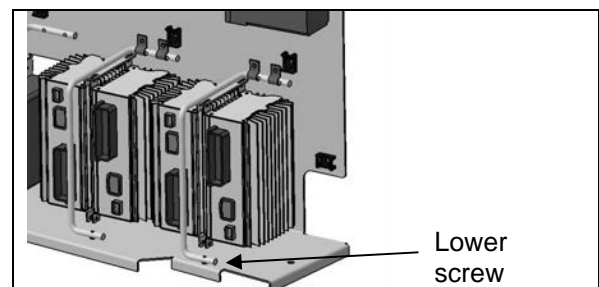

FIGURE 19: IO-B MODULE REMOVAL
- Replace the module (for IO-B modules, disconnect the green connector first, then the grey one and finish with the black connector. To disconnect the black connector, slide downwards the red latch. Remove the lower screw that holds the cable attachment rod onto the floor portion of the panel and flip the rod up, this will relieve the IO-B module, see figure 19).